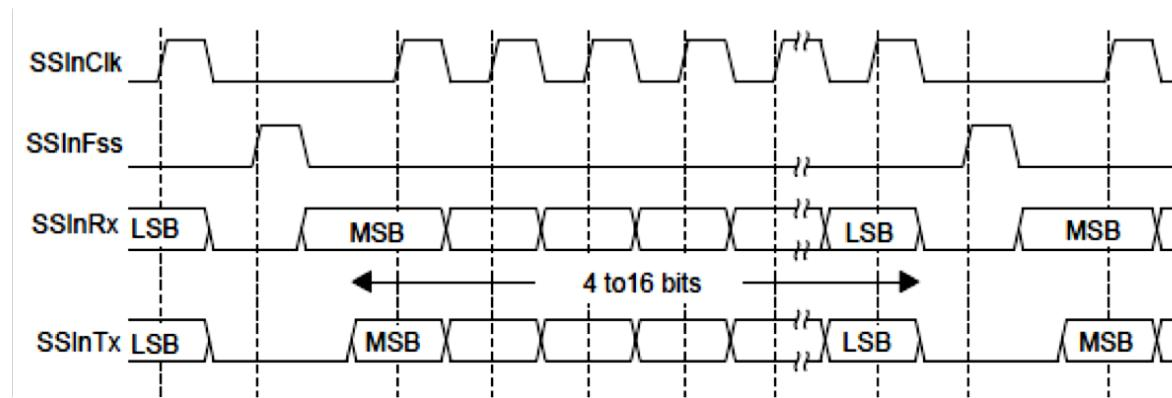

Figure 8.6 The operational sequence for Freescale SPI frame (**SPO=SPH=0**).
- Figure 8.6 (next slide) shows the timing sequence when **SPO = 0** and **SPH = 0**, which means that the inactive level of the **SSInClk** is **Low** and the data is captured by the first clock edge transition.